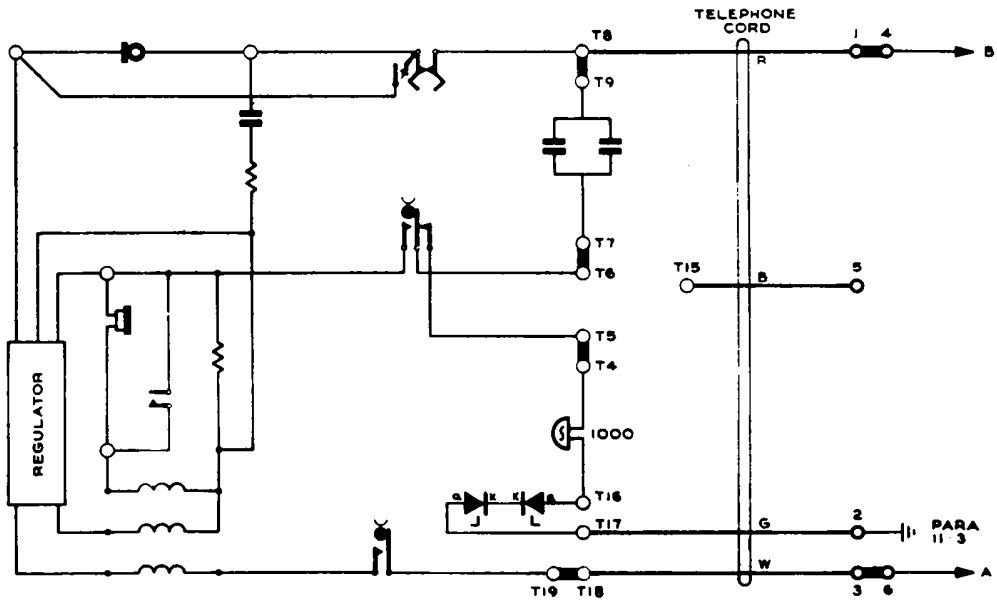

FIG. 15 M PARTY FROM CROSSBAR EXCHANGE (SEE PARA 11 PAGE 8 2)
11.2 Connections for the A, D and M subscribers are shown in fig. 15. For R and S subscribers, reverse the A and B line wires at block terminals 4 and 6. A revertive call will prove a correct connection. Revertive numbers are shown in table 1. (See para. 11.4).